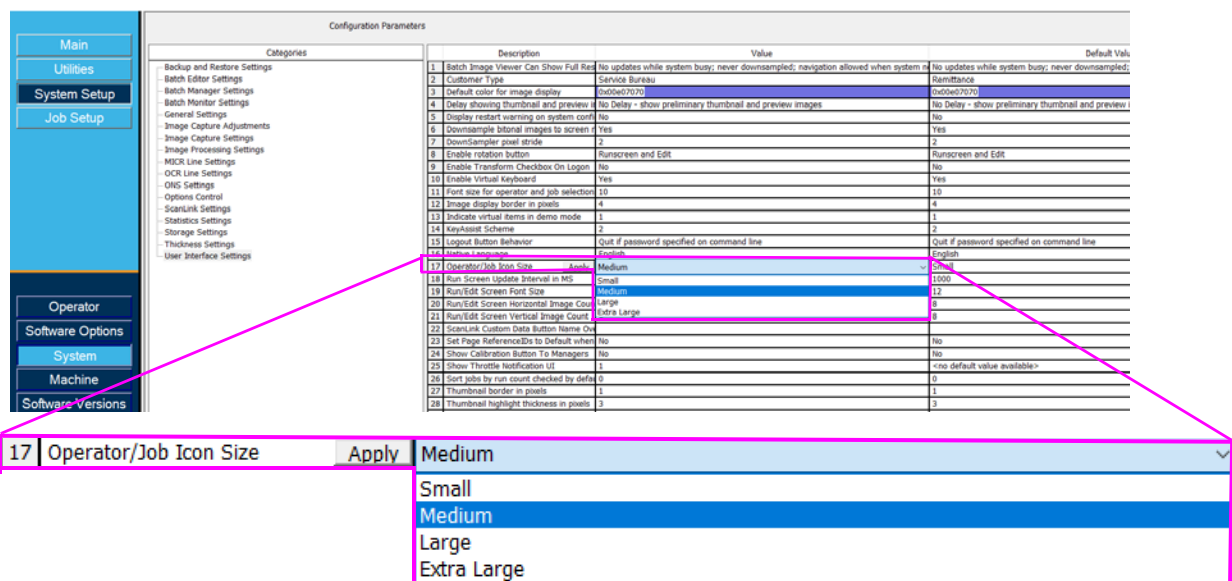

Figure 4-6: Operator/Job Icon Size parameter
2. Click the **Operator/Job Icon Size** drop-down to select the size and click **Apply** button (Figure 4-6).